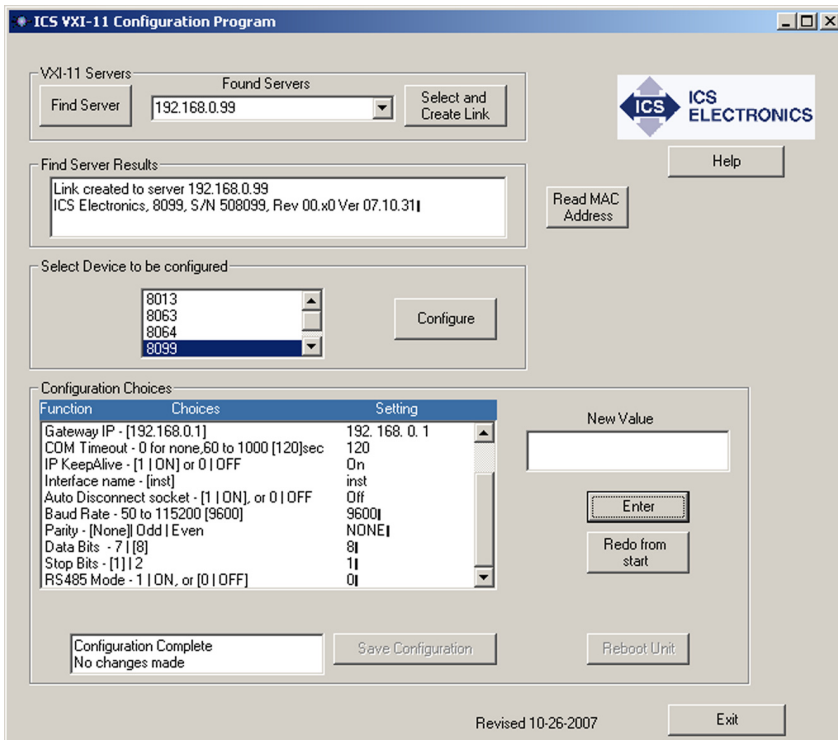

Figure 2-9 VXI-11 Configuration Utility
- Run the VXI11_config program. The Configuration Utility opens a window as shown in Figure 2-9. Initially only the Find Server, Help and Exit buttons are enabled on the program window. The other buttons will be enabled as you advance through the program.
9. Repeat step 8 for each configuration parameter. Figure 2-9 shows the VXI-11 Configuration Utility after all parameters have been entered for a Model 8099. Click the **Redo From Start** button if you need to start over or if you want to change any of the prior settings